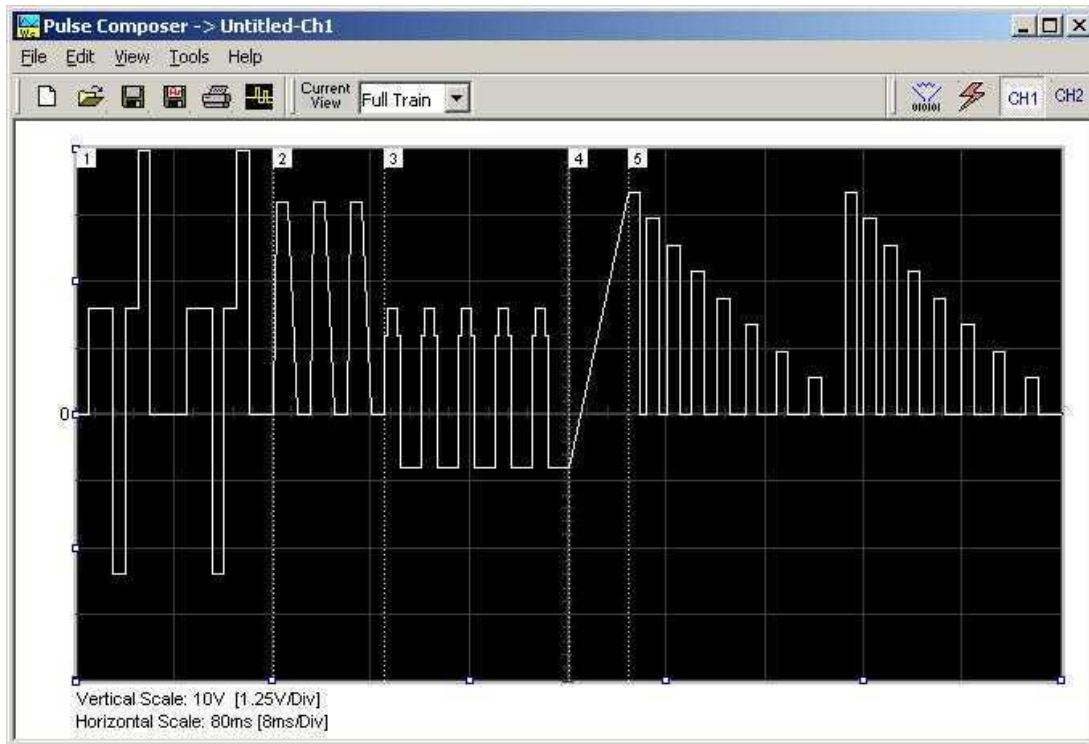
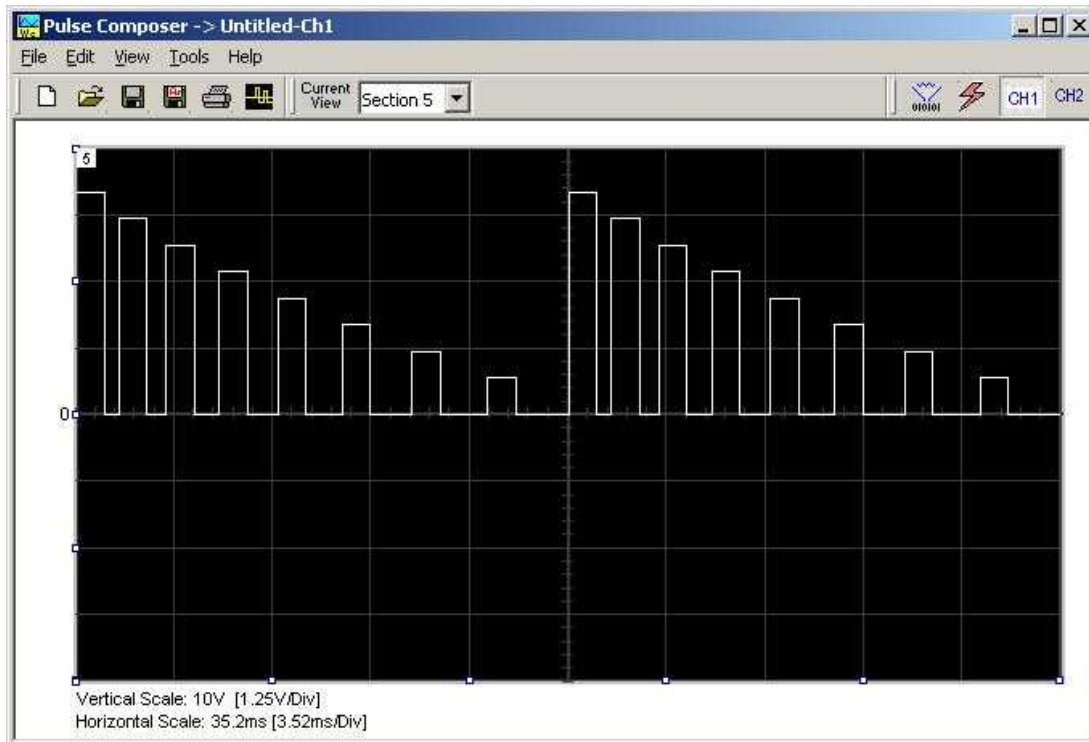

Figure 3-35, Complete Pulse Train Design
Figure 3-36, Section 5 of the Pulse Train Design
Pulse train is constructed from 1 or more sections. If the pulse is simple, it can be created using one section only. For more complex pulse train, the train can be divided to smaller sections and each section designed separately for simplicity. Figure 3-35 shows a complex pulse train which was made from five simpler sections and Figure 3-36 shows the design of the fifth section only of the pulse train.
Now that we somewhat understand the terms we use for the pulse design, we start with an example how to design the pulse train as shown in Figure 3-35. If you already have some pulses shown on your pulse composer screen, click on New to start from a fresh page. Another step before you design your pulse train is to set the design parameters in the options menu that will determine the way that the pulse will be distributed in your waveform memory. Click on View→Options and refer to Figure 3-37 throughout the following description.
**Pulse Example, Section 3** The second pulse section is complete. We are ready now to start building the third section of the pulse as shown in Figure 3-36. Point and click on the Edit command and select the Append Section option. A new section number will appear but it will show empty next to the section identifier.
The third pulse section is complete. We are ready now to start building the fourth section of the pulse as shown in Figure 3-36. Point and click on the Edit command and select the Append Section option. A new section number will appear and will show empty next to the section identifier.
**Pulse Example, Section 5** The fourth pulse section is complete. We are ready now to start building the fifth and final section of the pulse as shown in Figure 3-36. Point and click on the Edit command and select the Append Section option. A new section number will appear and will show empty next to the section identifier.